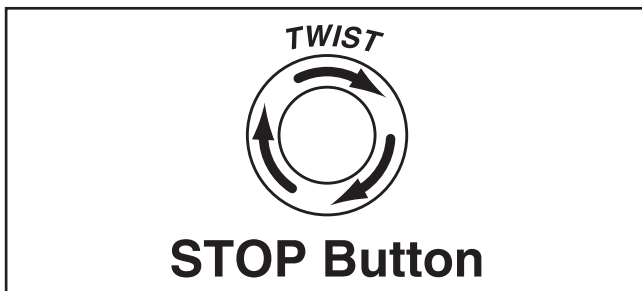

Figure 59. Resetting the STOP button.
- Push the STOP button in, then twist it clockwise so it pops out. When the STOP button pops out, the switch is reset and ready for operation (see **Figure 59**).